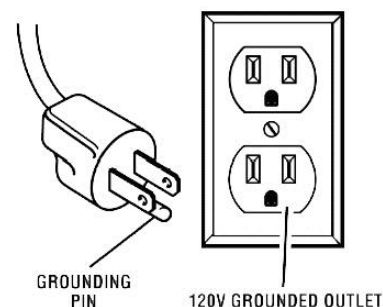

Figure 1
J. POWER CORD: This product is for use on a nominal 120-volt circuit and should be grounded. A cord with a grounding plug as illustrated must be used. Make sure that the product is connected to an outlet having the same configuration as the plug (see Figure 1). No adapter should be used with this product. Check with a licensed electrician if the grounding instructions are not understood, or if in doubt as to whether the product is properly grounded. Do not modify the plug provided. If it will not fit the outlet, have the proper outlet installed by a licensed electrician.